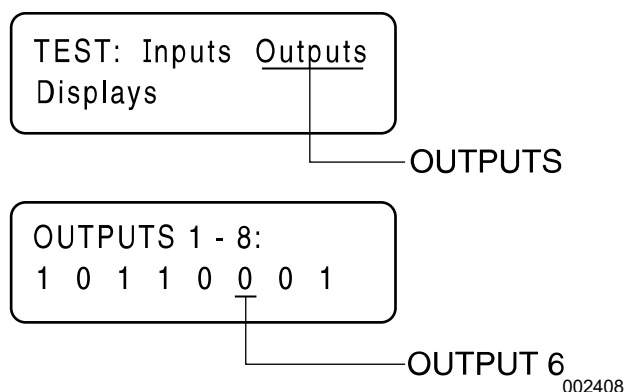

Figure 3-45. The Output Screens
- a. See **Figure 3-45**. Digital Output 6 is Wire 56 output from the board.